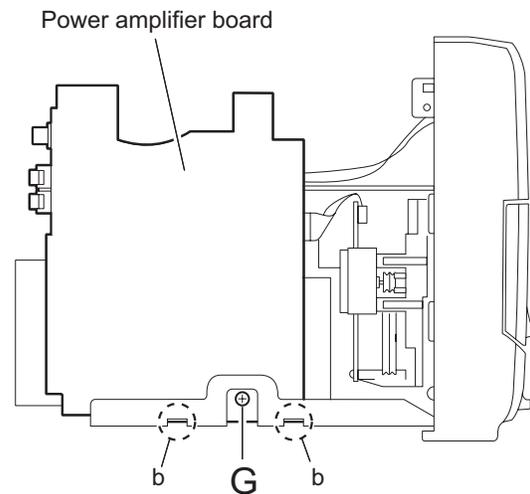

Fig.10
- (1) From the front side of the cassette mechanism, remove the slit washers attaching the capstan shaft **L** and **R**. Pull out the flywheels backward.
2.2.5 Removing the reel pulse board and solenoid (See Fig.10)